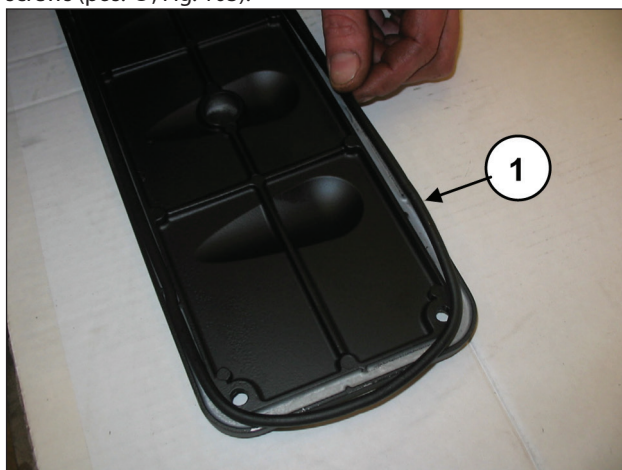
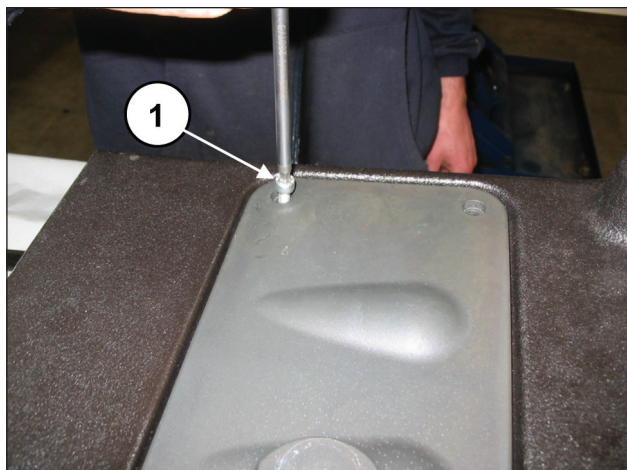

Fig. 102
Fig. 103
Insert the O-ring on the two inspection covers (pos. ①, Fig. 102) and assemble the covers with the use of 4+4 M6x14 screws (pos. ①, Fig. 103).